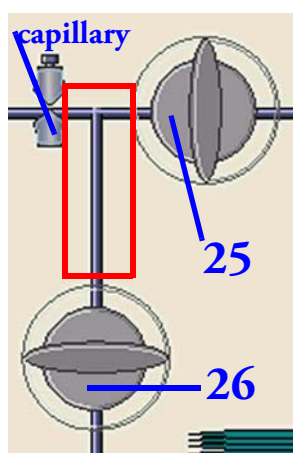

Figure 8-1. Defined Volume Enclosed between Valves and Capillary
2. The volume is reduced to the defined volume of 145 μl that is enclosed between valve 25, valve 26 and the capillary by closing valve 25 of Dual Inlet system. See rectangle in Figure 8-1.